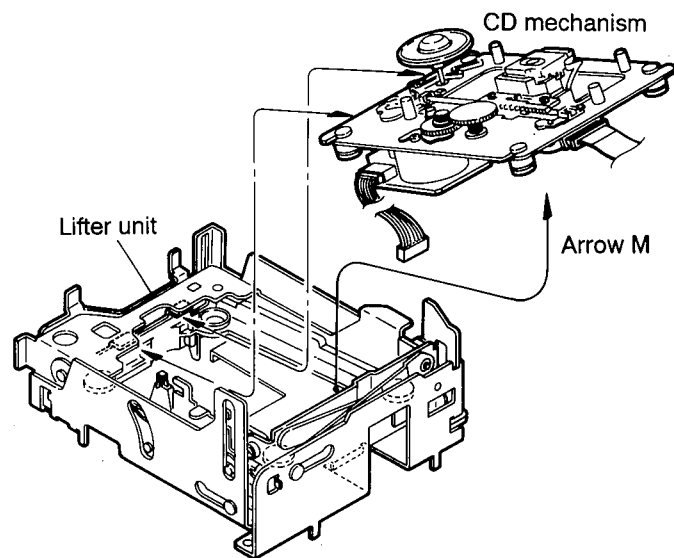

Fig. 2-21
2. By raising the CD mechanism assembly in the arrow direction (M), remove the assembly from the lifter unit (Fig. 2-21).